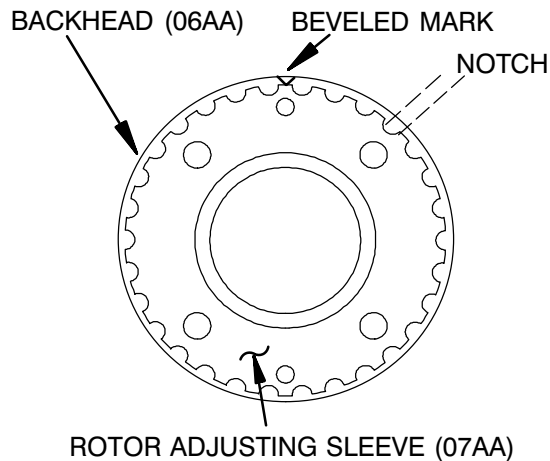

Figure E-5. End Clearance Adjustment
The method for adjusting the end clearance is determined by the design of the adjusting sleeve. When the recommended clearance has been determined from Tables E-1 or E-2, compare the design of your pump to Figures E-5 and E-6, and follow the appropriate instructions for adjusting end clearance.
Loosen the setscrews (GA) in the rotor adjusting sleeve. Turn the rotor adjusting sleeve (07AA) clockwise until the rotor bottoms against the head (zero clearance), and install the bearing lockwasher (03B) and locknut (03C) as previously described. See Figure E-5 and mark the rotor adjusting sleeve (07AA) at the beveled mark on the backhead (06A).